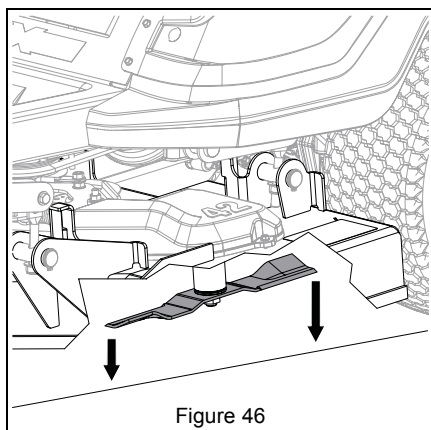

Figure 46
3. On both sides of the unit, measure the distance to the ground at the front and rear tip of the blade. See Figure 46.